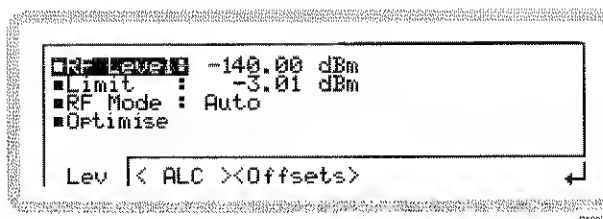
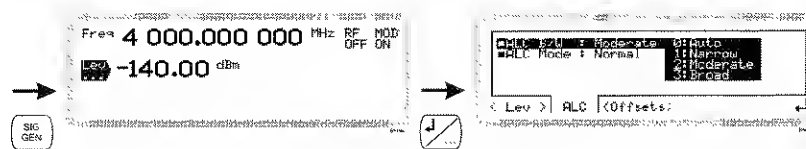
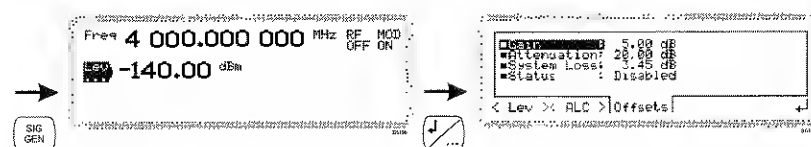

Fig. 3-21 RF level
Fig. 3-22 ALC
Fig. 3-24 RF level offset
- 2 Press **↵** to view the sub-menus. *RF Level* is highlighted (Fig. 3-21).
From the RF level menu of Fig. 3-21, touch <ALC> or press **<TAB>** to display the ALC screen (Fig. 3-22).
- 1 From the RF level menu of Fig. 3-21, touch <Offsets> or press **<TAB>** to display the RF offset screen (Fig. 3-24).